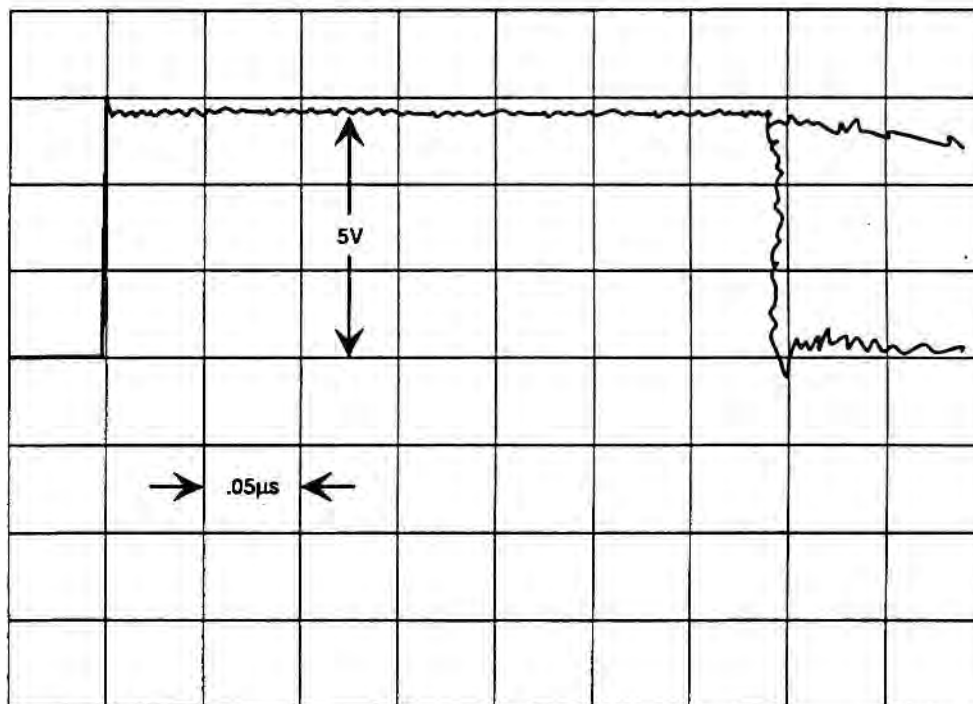

FIGURE 4-13. Typical Signal Trace for Data Lines (D0-D7)
6. If the chip select is correct, check the data lines out of the EPROM, U18, pins 13-15 and 18-22. They should vary between 0 and +5 volts as shown in Figure 4-13. If data lines are incorrect, check the address lines, U18, pins 2-11, 24, and 27-31. They should vary between 0 and +5 volts. Since each address lines transition from 0 to +5 Vdc is different, any 0 to +5 Vdc transition is considered correct. If the address lines are correct, replace U18. If the address lines are incorrect, check address outputs of MPU, U1, pins 8-23. If the address lines are not correct, replace U1. If the address lines are correct an open circuit exist between U1 and U18. Repair PC board or scrap board as required.